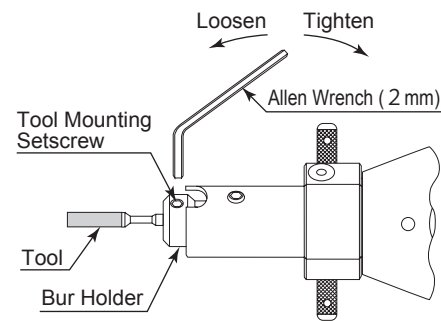

Fig. 4
- Insert a tool (less than ϕ 3.2mm) into the bur holder and tighten the tool mounting setscrew with the provided allen wrench (2mm). (Fig. 4)